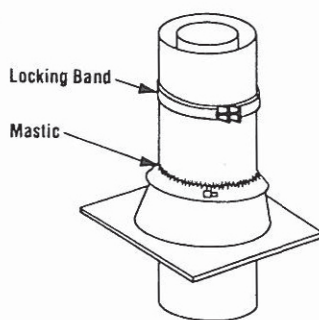

Figure 31
Step 8. The standard Superior roof flashing assemblies include a storm collar. Slide storm collar over outer chimney, align with top surface of flashing, insert tab in slot, pull tight and bend tab back over slot. Seal storm collar to outer chimney with roof caulking or mastic around entire circumference of pipe. Also add extra roof caulking where storm collar meets flashing and to the tab/slot area to seal completely against water penetration (Figure 31). Check all joints very carefully to ensure no water intrusion can take place.